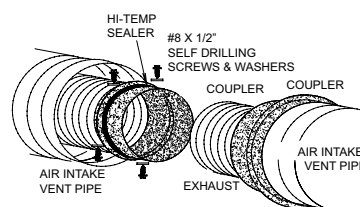

FIGURE 59
6. If more flexible vent pipe needs to be used to reach the fireplace, coupler them together as illustrated in Figure 59. The vent system must be supported approximately every 3 feet for both vertical and horizontal runs. Use noncombustible strapping to maintain the minimum 1" clearance to combustibles.